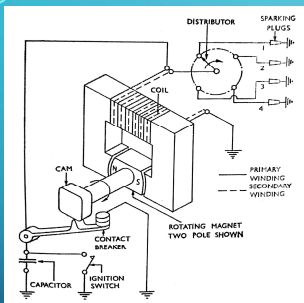

Fig. 3 Magneto ignition system
Magneto ignition system – Refer Fig. 3
- In this system, a battery is not required, since the magneto acts as its own generator. It may consist either of rotating magnet in fixed coils or rotating coils in fixed magnets. The first of these types is illustrated in Fig. 3.